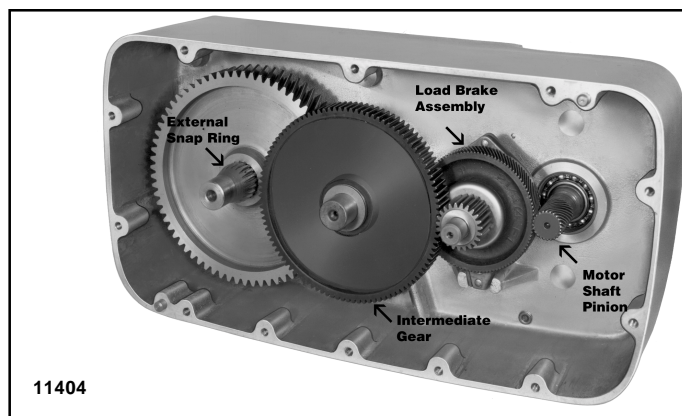

Figure 5-3. View of Gearcase – Cover Removed
- The mechanical load brake and gearing may be inspected and serviced with hoist suspended. To do so, remove lower block and wire rope, drain oil from gearcase, remove 12 hex head bolts and lockwashers holding gearcase cover, and pull cover from gearcase (Figure 5-3).